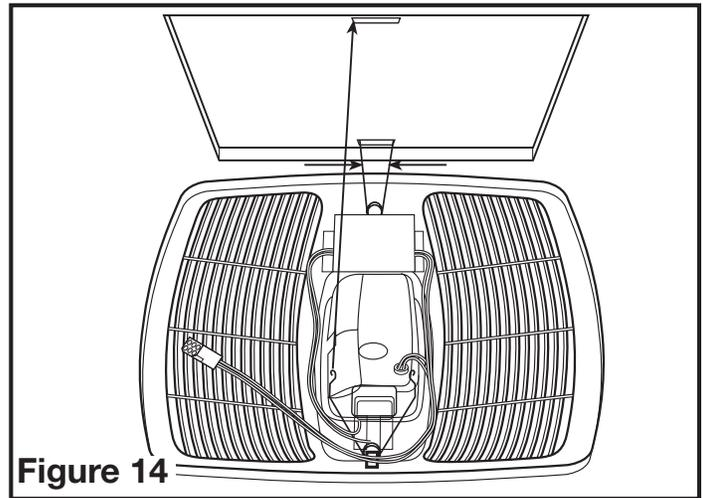

**Figure 13**
**NOTE:** If the mounting flange is installed on the fan housing, remove the two screws that connect the ceiling mounting flange to the housing and set aside (Figure 13).
5. Install the ceiling mounting flange to cover any gaps which exist between the housing and the finished ceiling. Remove the two screws that connect the ceiling mounting flange to the housing. Put sealant (not provided) on inside edge of the ceiling mounting flange to ensure that the flange is sealed to the ceiling. Line up the screw holes in the ceiling mounting flange with the screw holes on the inside of the housing and press flange in place so it is tight against the ceiling. Reinstall ceiling flange mounting screws inside the housing (**Figure 13**).